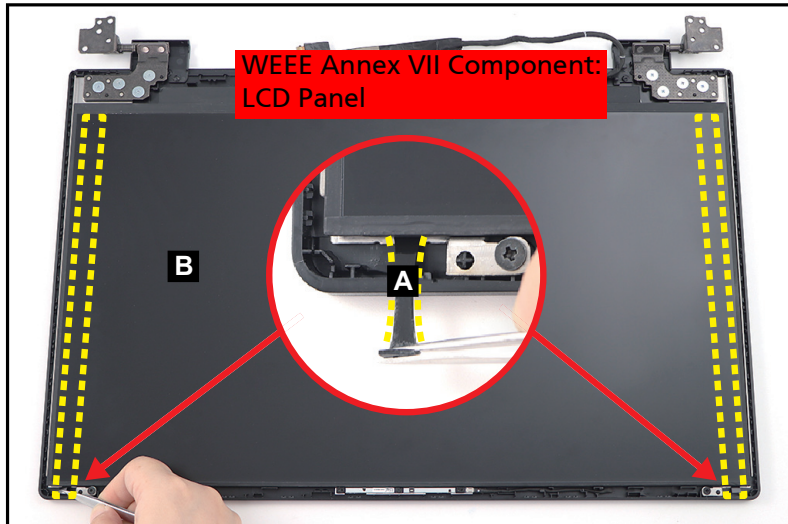

Figure 1-52. LCD Panel Removal
2. Pry slightly to access the double-sided mounting tape (A) underneath the LCD panel (B). Then pull to detach the double-sided mounting tape. Repeat the same procedure to remove the double-sided mounting tape on another side of the LCD panel (Figure 1-52).